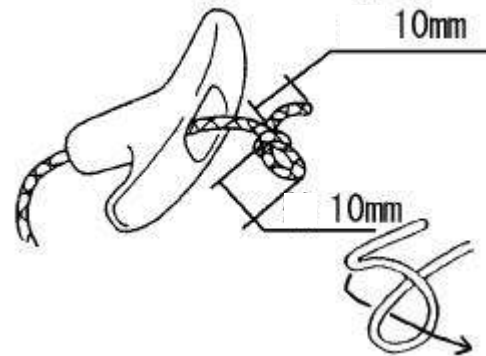

Fig. 6-3
(1) Run the STARTER ROPE through the STARTER KNOB and make an overhand knot as shown in Fig. 6-3. Run the STARTER KNOB at its opposite side from the STARTER CASE to the REEL, make a knot in the same way, and put the ROPE end completely in the ROPE HOUSING of the REEL. Then, apply a small amount of grease over the STARTER SHAFT and SPIRAL SPRING.